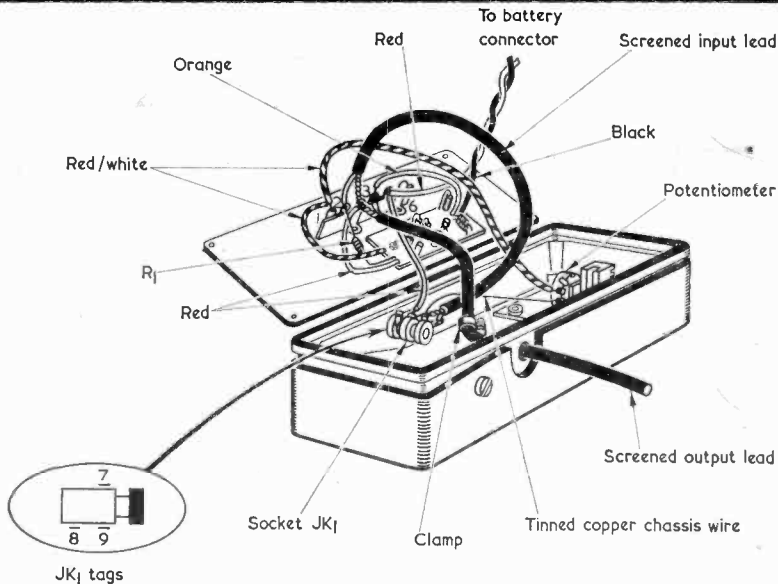

Fig. 7. Final wiring details. The tags of JK1, shown in the inset, point towards the reader
29. Turn next to Fig. 7, which shows the final wiring steps. Here, the tags on the tagstrip are numbered 1 to 6 for identification in the wiring instructions. Similarly, the three tags of JK1 are
The Veroboard, 6-way tagstrip and battery take up the positions shown here. This illustration should be consulted in conjunction with Fig. 7